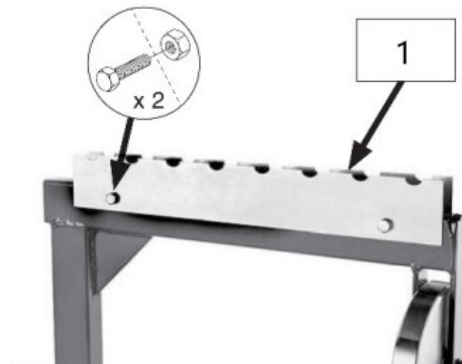

Fig. 9 – Installed cylinder holder
- Fix the lower cylinder holder to the upper side of the frame with 2× hexagon screws (1/4" – 20 × 1/4") and 2× hexagon nuts (1/4" – 20) (see Fig. 9).